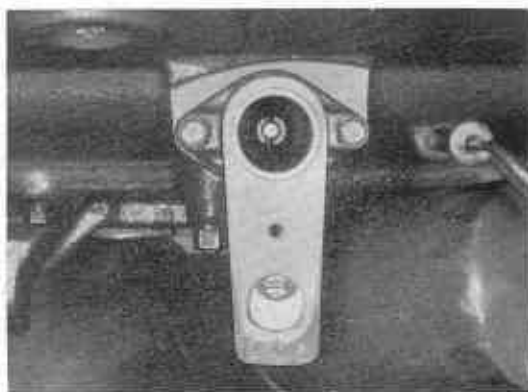

Fig. EM-54 Installing Distributor Driving Spindle
36. Insert the distributor drive spindle in place as shown in Fig. EM-54. Install the distributor and fix it in the position by tightening the clamping bolts. Adjust the point gap to 0.45 to 0.55 mm (0.0176 to 0.0217 in.).